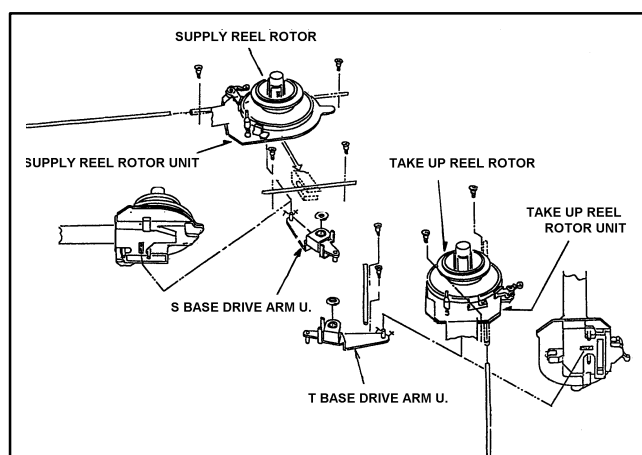

Figure 1-5-2
6. Remove the Supply and Take Up Reel Rotor Unit and Reel Outer Rail a shown in Figure 1-5-2.
2. Hang on the Reel Rotor Unit to Reel Inner Rail and Install the Reel Rotor Unit then the pin of Drive Arm Unit should be matched with groove position of Reel Base as shown in Figure 1-5-2.
3. Install the 4 screws (C), (D) and (E).
8. Connect the Flexible Cable to **connector (A)** and **(B)** on the **P.C.Board (C)**.